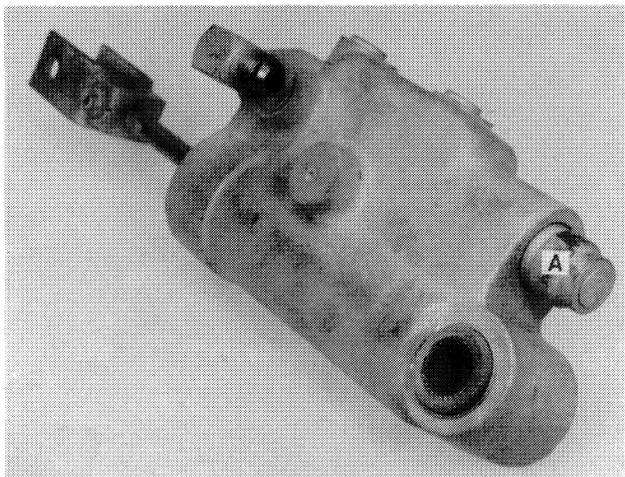

FIGURE 2-7
2. Remove spool retaining cap, A, Figure 2-7.